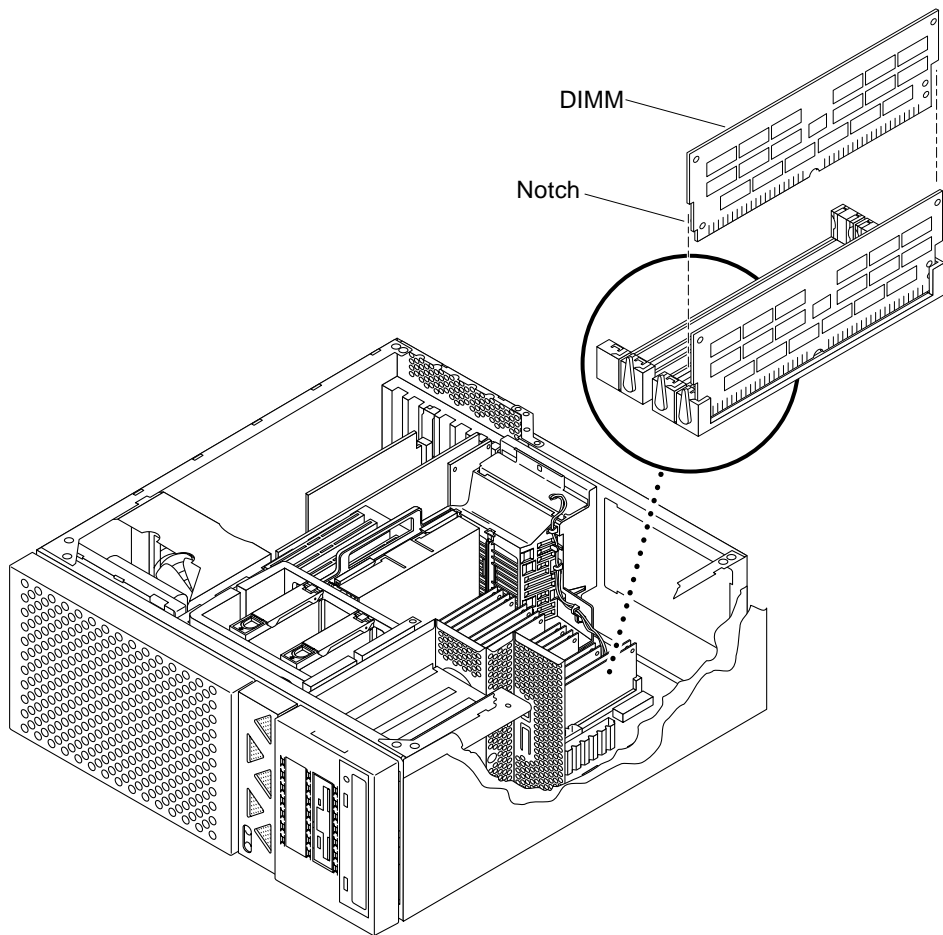

FIGURE 10-6 Removing and Replacing a DIMM
7. Remove the DIMM from the socket (FIGURE 10-6).
3. Install the DIMM as follows (FIGURE 10-6):